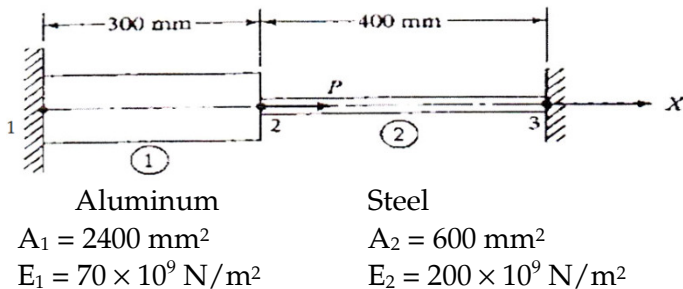

Fig. 1
6. Consider the bar shown in fig 1. An axial load $P = 220 \times 10^3 \text{ N}$ is applied as shown. 15